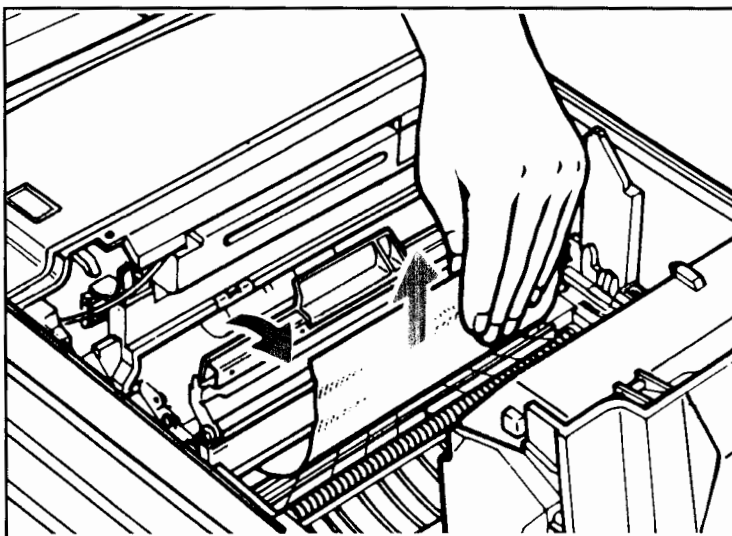

Figure 7-3 Clearing the transfer guide area (continued)
4. If the jam occurs in the transfer guide area, lift the green handle and remove the jammed paper as shown in Figure 7-3.